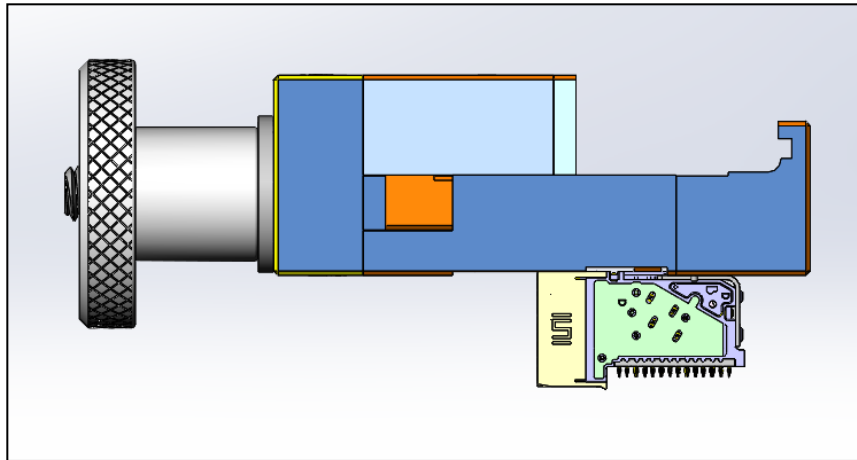

FIGURE 3
3. Orient the tool above the connector, so that the pins are facing towards the connector, and the tool's plastic insert is facing up. The tool's handle should be pointed in the direction of the connector mating surface shown in **Figure 3**.